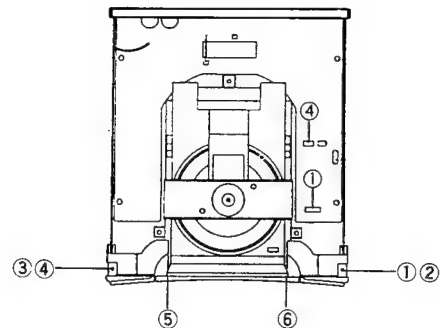

Fig. 4
1. Remove screws ① to ⑥ in Fig. 4.